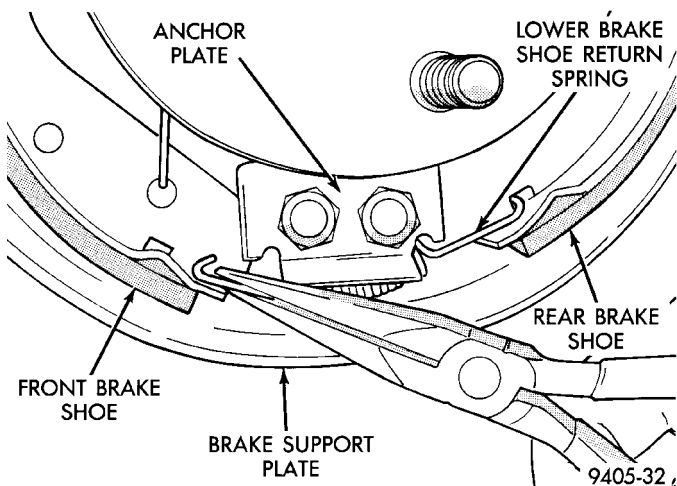

Fig. 84 Brake Shoe To Anchor Plate Return Spring
(8) Remove lower brake shoe to anchor plate return spring (Fig. 84).
(7) Install the lower brake shoe to anchor plate return spring (Fig. 84).